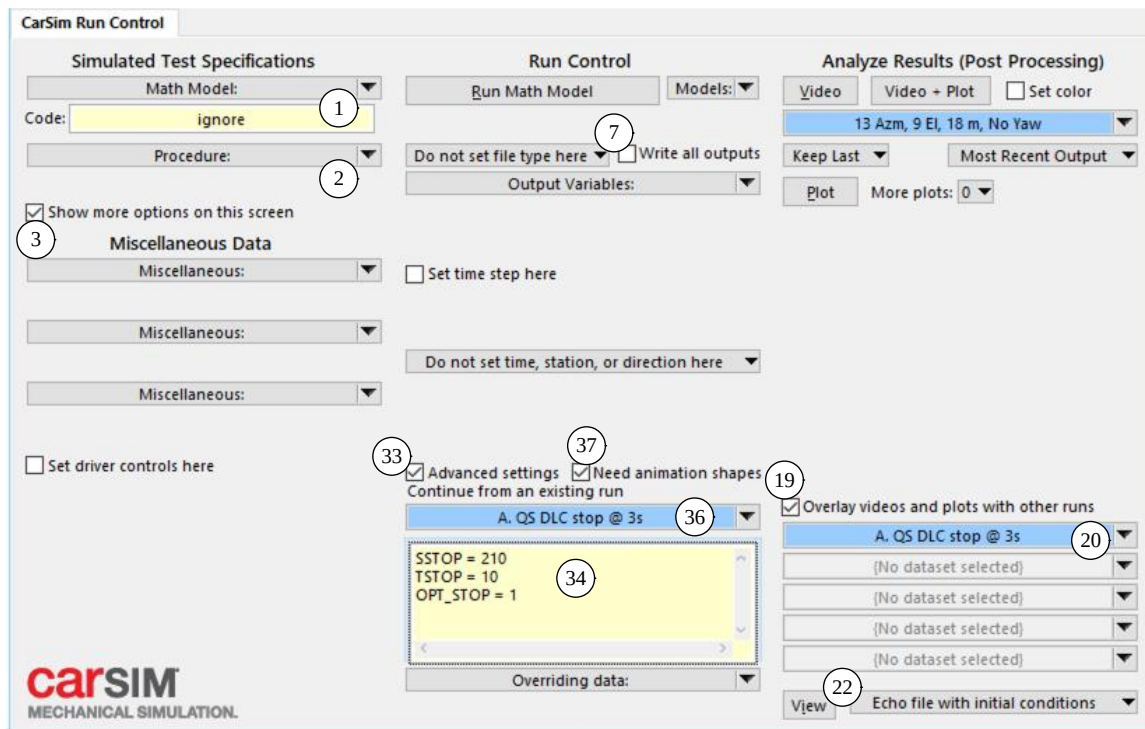
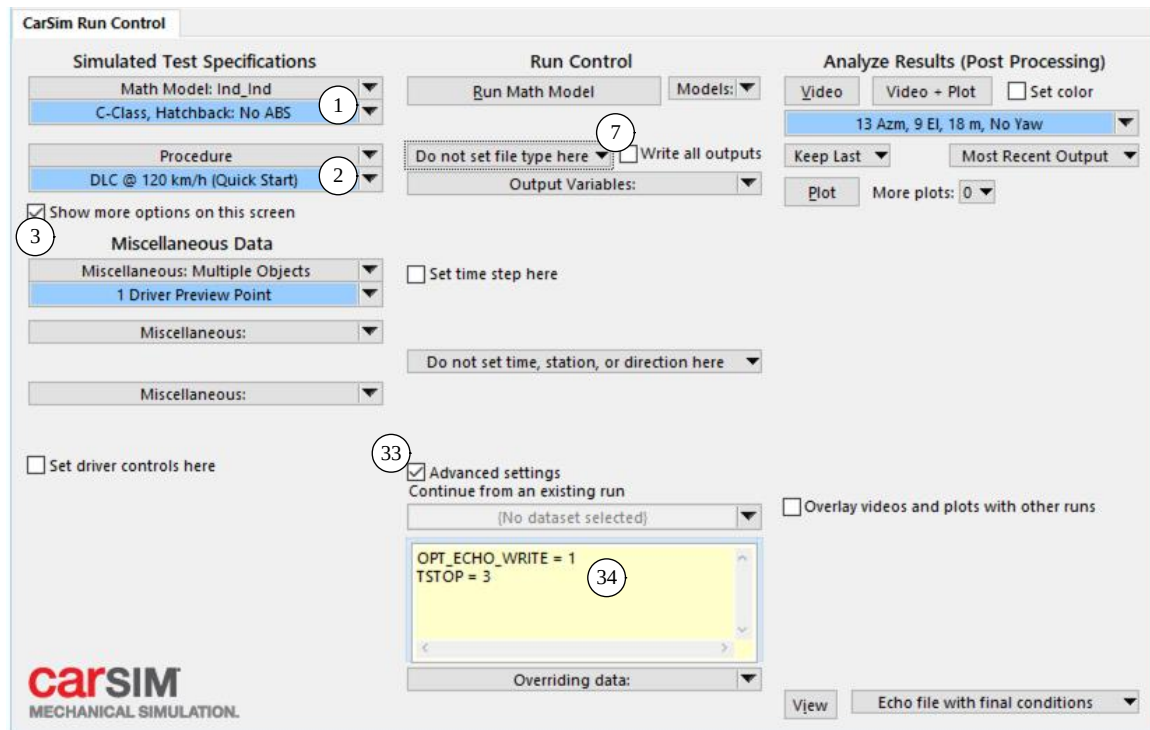
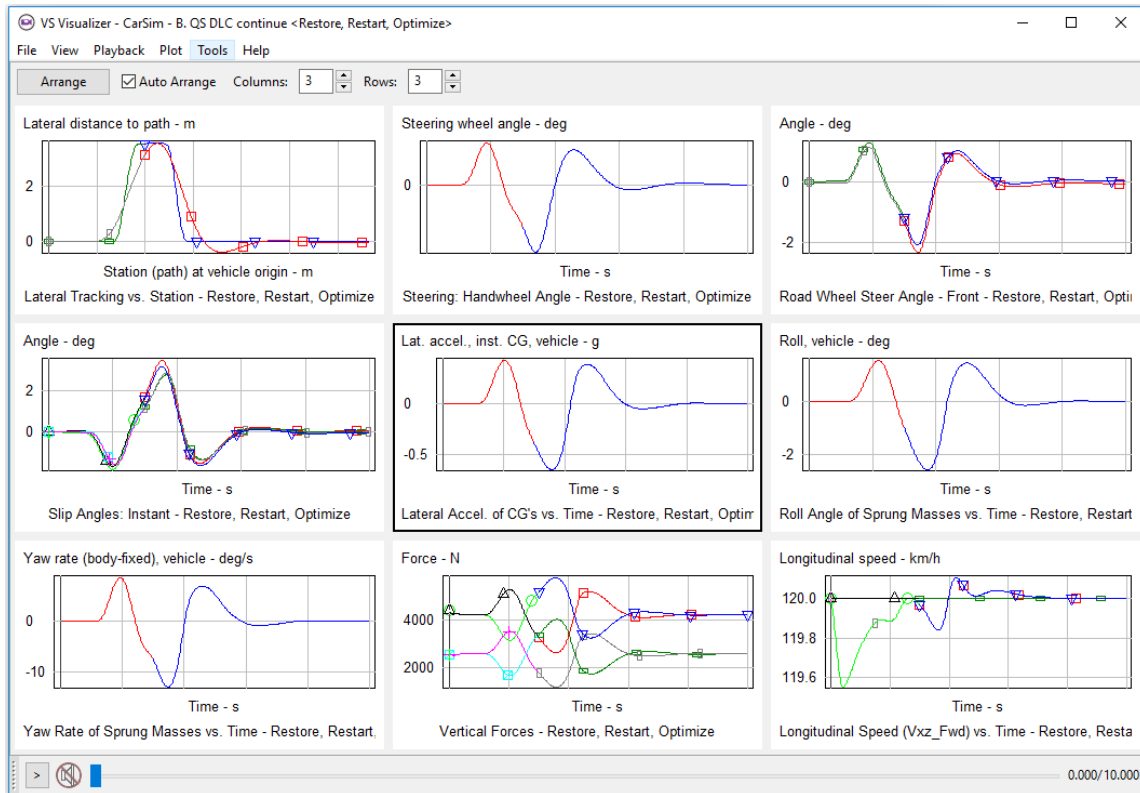

Figure 26. Run Control dataset for Part B of an example two-part simulation.
Figure 27. Run Control dataset for Part A of an example two-part simulation.
Figure 29. Plot for two runs involving a continuation.
The last option (**Do not override time, station, or direction here**) hides the related settings (Figure 26, page 21). In this case, the settings from the linked **Procedures** dataset are used.
The **Run Control** screen has two controls that support the option of continuing an existing simulation run (Figure 26). These controls are invisible unless both the **Show more options on this screen** box 3 and the **Advanced settings** box 33 are checked.
Consider the example for a continuation run shown in Figure 26.
With a normal run setup, the VS Browser scans the input Parsfiles for plot setups and visualizer reference frames and activates the necessary output variables for writing to output, using the `WRITE` command. The setup in Figure 26 does not include any plots or links for animation, so there is no automatic activation of output variables for writing to file.
The normal method for activating output variables for writing to file is to set up the reference run such that the End file activates the output variables. For this example, Figure 27 shows the reference run dataset.
Note	You can always view the Run Control dataset for a reference run by clicking on the blue link for the Continue from an existing run link ③⑥ (Figure 26).
Figure 29 shows plots defined in the original run for the examples used for Figure 26 and Figure 27. The original run ended at 3s; the continuation started at 3s. The two overlaid plots show perfect continuity, with the only visible indication of the switch being the colors of the lines in the plots.